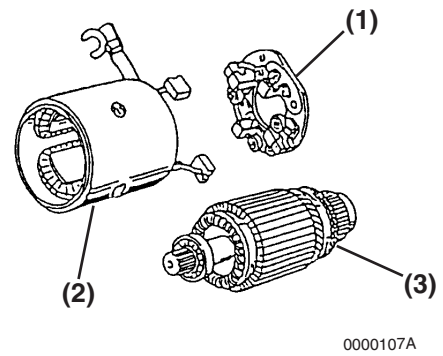

Figure 11-6
- Remove the brush holder assembly (**Figure 11-6, (1)**) from the armature assembly (**Figure 11-6, (3)**).
- Pull the armature assembly (**Figure 11-6, (3)**) out from the field coil assembly (**Figure 11-6, (2)**).